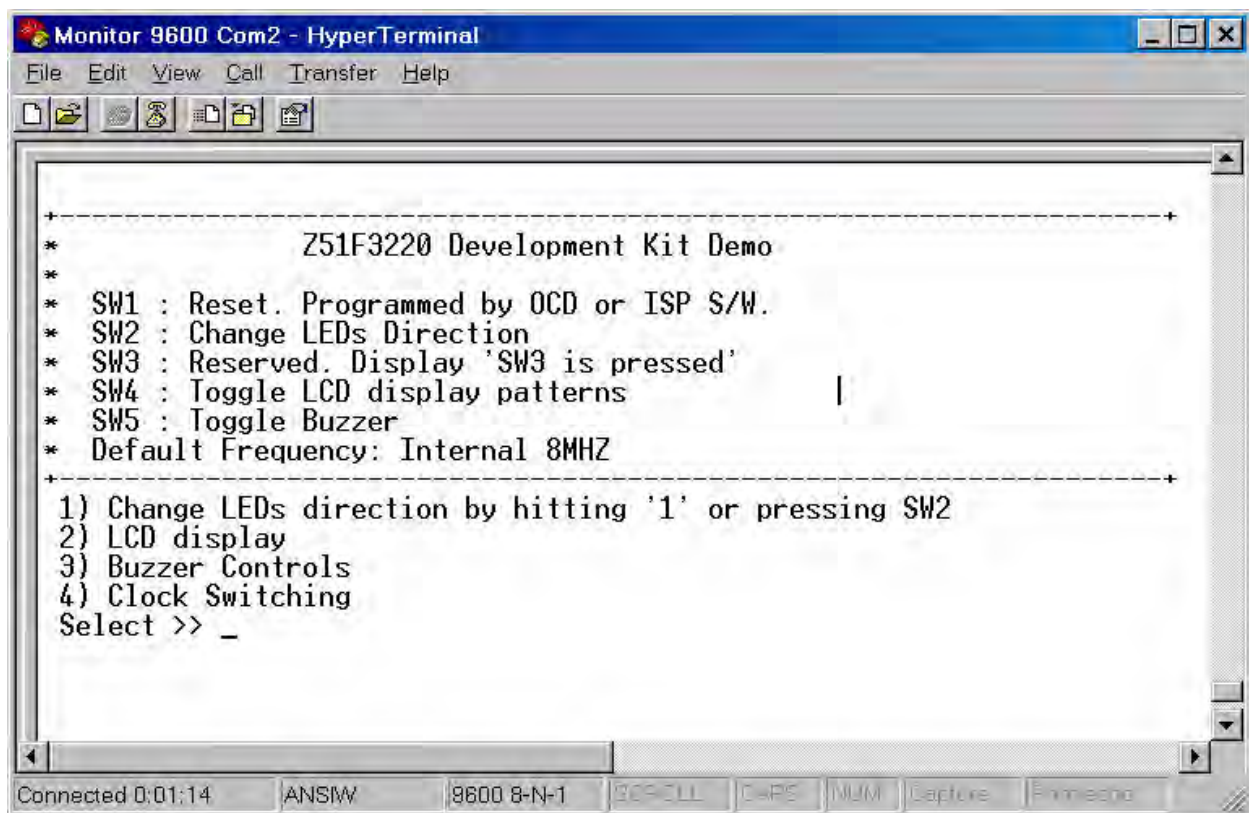

Figure 31. Demo Program Menu in HyperTerminal
3. Click the **Call** button to connect to the Z51F3220 Board. Upon connection, you should be able to see the Demo program menu shown in Figure 31.